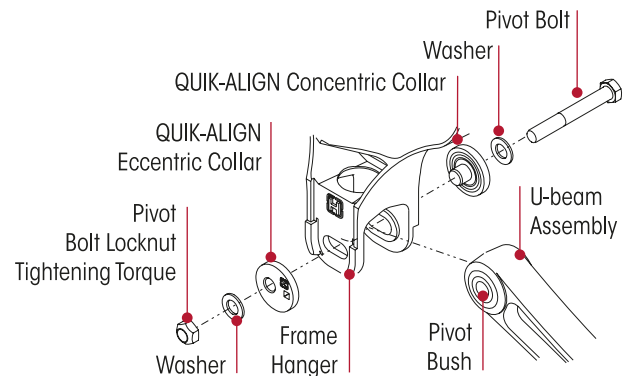
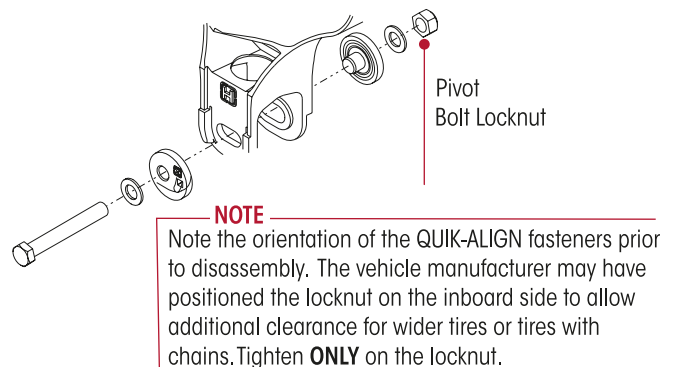

Figure 121: QUIK-ALIGN Bolt Configuration
Figure 122: Alternative QUIK-ALIGN Bolt Configuration
6. Remove the QUIK-ALIGN fasteners and collars, and note the orientation of the fasteners. Refer Figure 121 and Figure 122. Discard the fasteners. The collars may be reused if they are not damaged.
3. Install the QUIK-ALIGN collars and the new mounting hardware that attach the support beam to the frame hanger. Refer Figure 121 and Figure 122. Verify that the nose of each QUIK-ALIGN collar is installed correctly into pivot bush sleeve, and the flanged side is flat against the frame hanger face within the alignment guides. Snug QUIK-ALIGN locknuts to around 100 Nm torque. Do not tighten at this time.